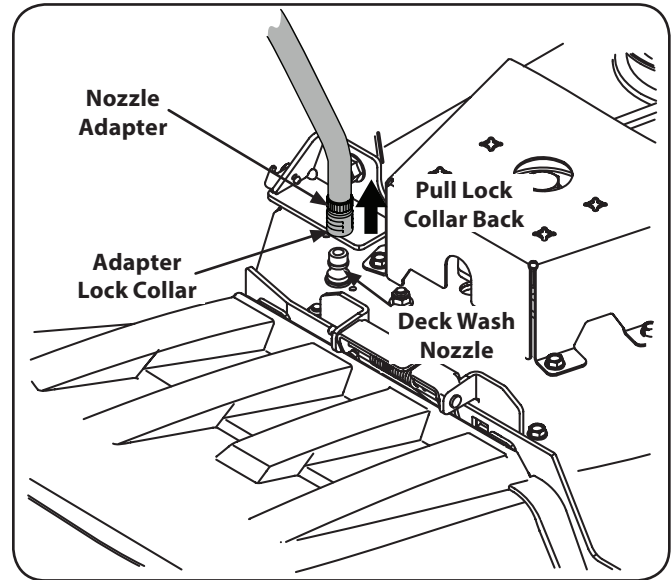

Figure 3-3
3. Pull back the lock collar of the nozzle adapter and push the adapter onto one of the deck wash nozzles at either end of the mower deck. Release the lock collar to lock the adapter on the nozzle. See Figure 3-3.